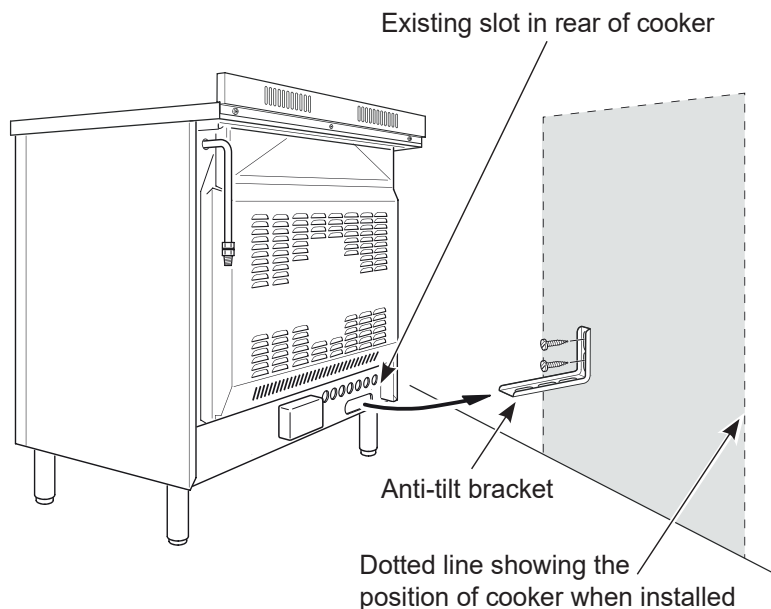

Figure 10 Fitting a stability bracket
- 1 After you have located where the cooker is to be positioned, mark on the wall the place where the two screws of the anti-tilt bracket have to be fitted. Please follow the indications given in Fig. 10.
- 4 Move the cooker to the wall and adjust the height of the anti-tilt bracket so that it can engage in the slot on the cooker's back, as shown in fig. 10.